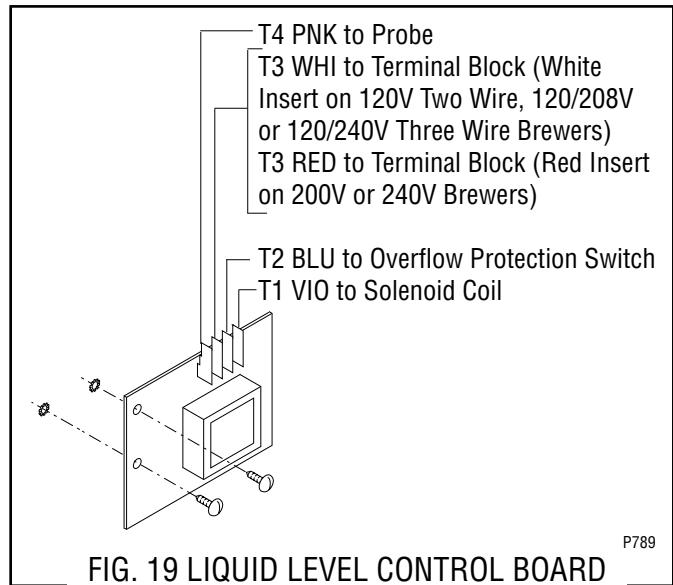

FIG. 19 LIQUID LEVEL CONTROL BOARD
4. Refer to Fig. 19 when reconnecting the wires.